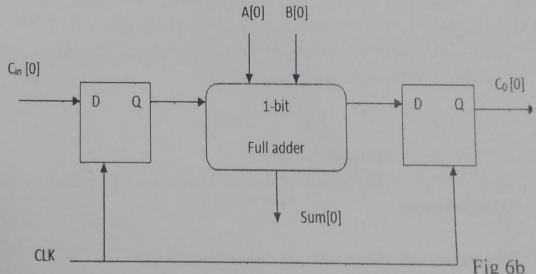

Fig 6b
- b) Now a register (flip flop) based pipelined 4-bit ripple carry adder is constructed using the one-bit full adder [designed in part (a)], using the method shown in In Fig. 6b,